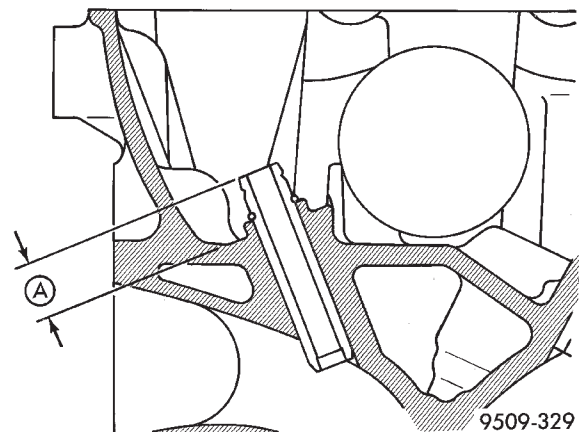

Fig. 121 Valve Guide Height
- (3) Measure the clearance between the valve guide and valve stem. If the service limit is exceeded, replace the valve guides, valves or both.
- (4) Check for even contact (at face center) with valve seat, Point C.
- (5) Check margin. Refer to Valve Specification Chart. Replace valve if margin is out of specification.
- (6) Check valve guide height (Fig. 121).